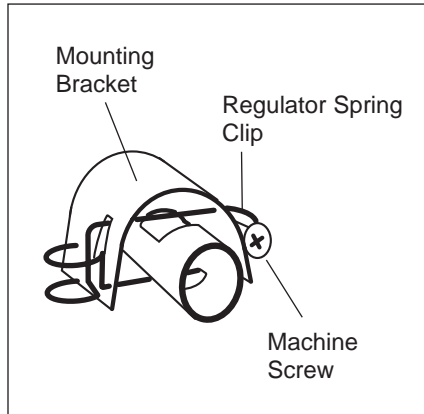

Figure 7
2. Turn the Grill Body to the upright position. Remove the screw and nut that secures the Regulator Spring Clip to its Mounting Bracket, making sure to retain the hardware for reassembly. Lift and remove the Mounting Bracket by pulling slightly to the right while pressing the Regulator Spring Clip (to open it wide enough for removal) and set to the side. See Figure 7.